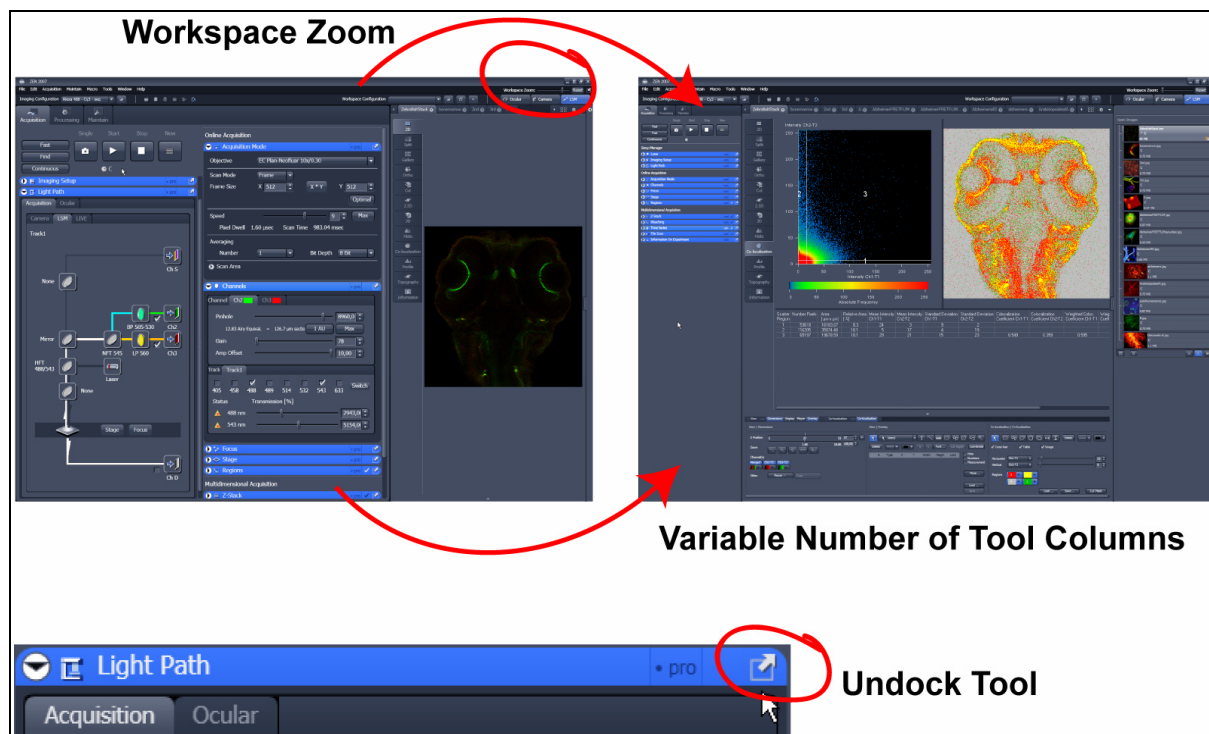

Fig. 7 ZEN Window Layout configuration
- The user can add more columns to the **Left Tool Area** or detach individual tools to position them anywhere on the monitor. To add a column, drag a tool group by the title bar (e.g., "Online Acquisition") to the right and a new tool column automatically opens. To detach a tool, click on the little icon on the very right end of the blue tool header bar (Fig. 7).
- Another unique feature in Imaging Software is the scalable ZEN interface. This **Workspace Zoom** allows adjustment of the **ZEN 2008** window size and fonts to the situational needs or your personal preferences (Fig. 7).